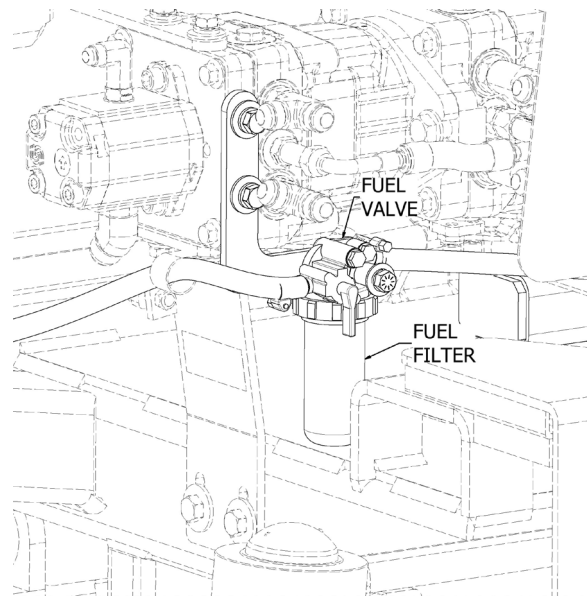

Figure 5.12 – Fuel Valve/Filter Location
1. Locate the engine fuel filter and fuel valve on the left hand side of the machine attached to the hydrostat. See Figure 5.12. Change according to the maintenance schedule at the beginning of the chapter or more frequently when operating in extremely dusty conditions.